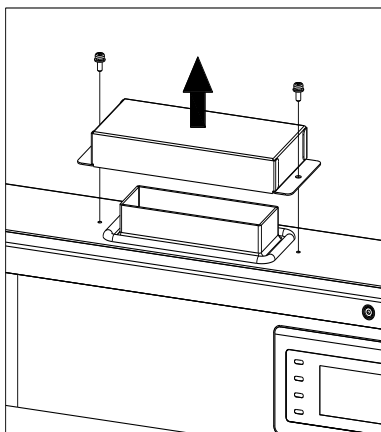

Figure 3-9 Cover board of the wiring box
- ② Remove the cover board at the top of the wiring box (see Figure 3-9)